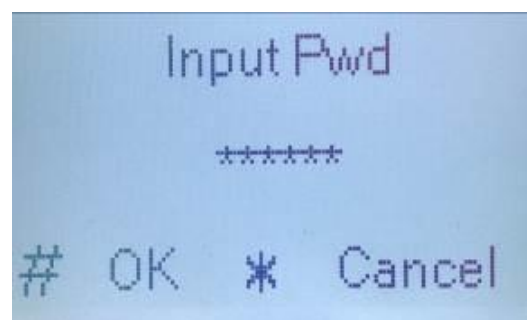

Figure 4-4
- d) Input password to issue card. The default password is "002236". See Figure 4-4.